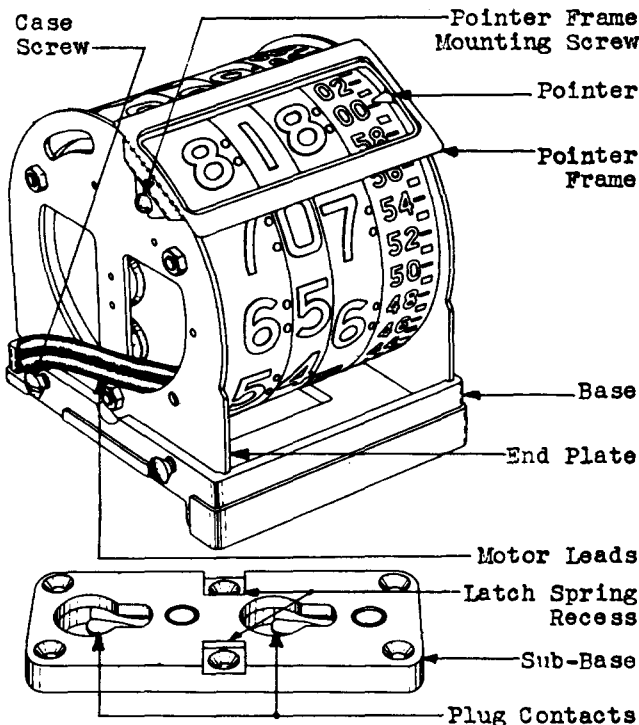
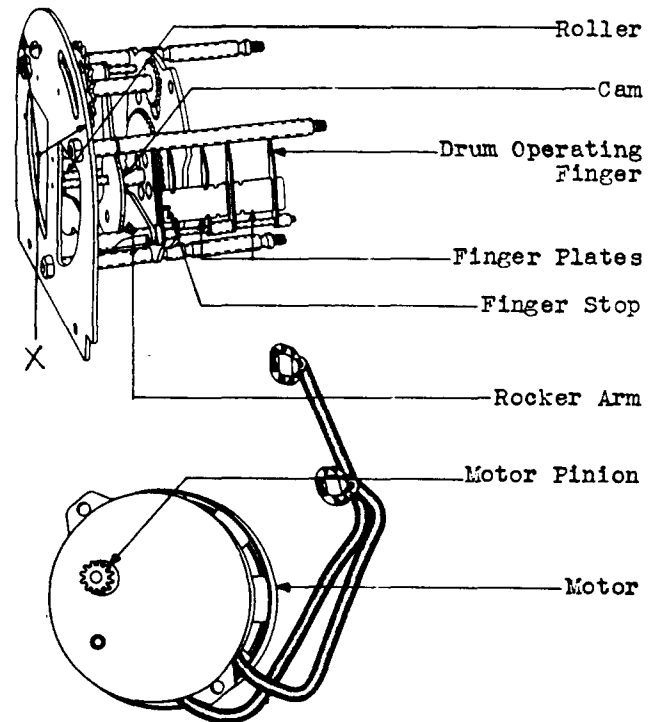

Fig. 2 – KS-8263 Clock (Case Removed) and Sub-Base
Fig. 4 - Gear and Cam Assembly and Motor
3.003 Removal of Clock from Service and Preparation for Adjustment: Remove a clock from the type of sub-base illustrated in Fig. 2, by pressing the latch spring at the rear of the clock against the case. Slide the clock to the left or right, depending on the manner of mounting. Remove a clock which is recessed in the keyshelf by lifting it vertically from its mounting. Loosen the four case screws with the KS-6854 screwdriver and withdraw the clock mechanism from the case. If the clock mechanism sticks in the case insert the blade of the screwdriver between the head of the case screw and the top of the associated notch in the case and force the case upward a slight amount by turning the screwdriver. Repeat this operation at each of the four case screws. Take care not to force the case too far at each operation as there is danger of cracking or chipping the case. Repeat the operation until the clock mechanism can be withdrawn from the case. Before remounting the case file a slight amount from the edges of the end plates for approximately 1 inch down from the points designated X in Fig. 4, using the R-1051 pillar file. This will usually be sufficient to relieve the bind and permit easy removal of the mechanism from the case. Do not remove more metal than is necessary to relieve the bind and carefully remove all filings.
(4) To reassemble the clock first arrange all fingers on the rocker arm to point away from the motor mounting position and make sure that the plates and stops on the fingers strike each other on the proper side to insure the fingers being in line with each other. The position of the fingers will be correct if all the fingers can be raised by means of the single finger adjacent the gears. With the roller at the lowest point of the concave side of the cam, remount the motor, if it was removed, so that the motor gear engages with the two associated gears of the drum driving assembly. Tighten the motor mounting screws securely. Make sure all drum actuating fingers are pointing up (in the direction of movement of the drums) and mount the seconds drum, depressing the finger arm, if necessary to permit the drum passing the finger which actuates the minute drum. Position the seconds drum on the driving gear so that the "02" seconds position is directly adjacent to the screw which mounts the pointer frame. Remount the three remaining time drums in proper order. Pass both motor leads through the opening in the end plate which is below the pointer frame mounting screw. (See Fig. 2.) Be careful that the leads are not stretched and the insulation cut at the points where the leads contact the end plate. Position the end plate with the pointer frame mounting screw facing out and tighten the end plate mounting nuts securely. Remount the pointer frame and tighten its mounting screws securely. Reposition the terminals of the motor leads in the base and tighten the two plugs and nuts in the base. (See Fig. 2.) Position the clock in the base and tighten the case screws. Check the movement of the time drums and if necessary disassemble the clock sufficiently to correct for binding parts. Reassemble the clock.